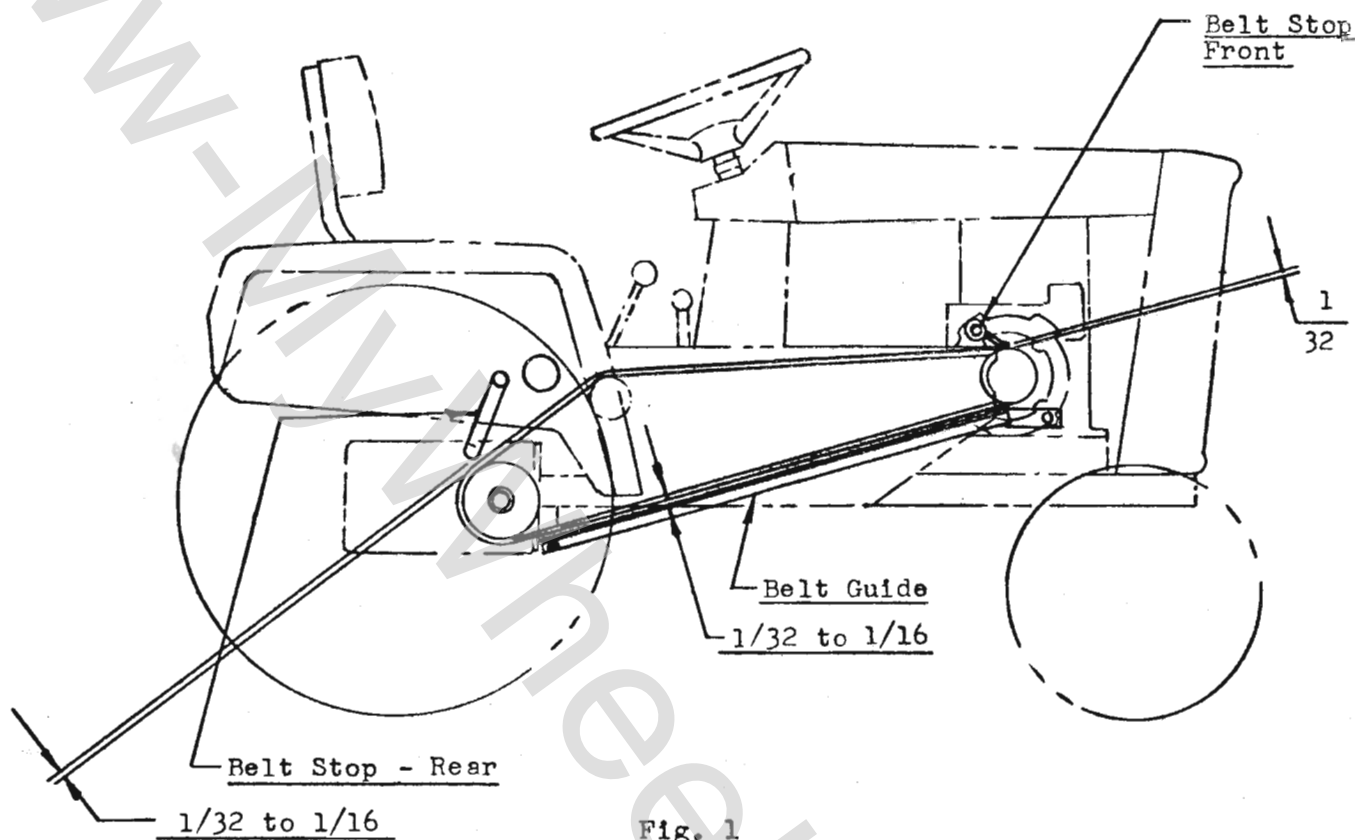

Fig. 1
- I. FIG. 1 — A Belt Guide, Part No. 4195 added. It attaches to the Frame and to the side of Engine and runs along bottom side of Drive Belt. It attaches to the Frame with a Bolt ( $\frac{3}{8}$ -16 x 1) Part No. 908034-4 and Nut ( $\frac{3}{8}$ -16) Nylock, Part No. 915113-6 and to the Engine with a Bolt ( $\frac{7}{16}$ -14 x 1) Part No. 908046-4 and Lock Washer  $\frac{7}{16}$  Dia., Part No. 920084-4. The Guide is to be tightened to Tractor only when it is placed along bottom of Belt with  $\frac{1}{32}$ " to  $\frac{1}{16}$ " clearance.
- II. FIG. 1 — A Belt Stop (Rear), Part No. 4486 fits inside the Right Rear Fender with a Bolt ( $\frac{3}{8}$ -16 x  $\frac{3}{4}$ ) Part No. 908032-4 and Lock Washer  $\frac{3}{8}$  Dia., Part No. 920156-4 and extends down to top of Drive Belt on Transmission Pulley. The Belt Stop is to be tightened only when it is  $\frac{1}{32}$ " to  $\frac{1}{16}$ " away from top of Belt.
- III. FIG. 1 — A Belt Stop (Front), Part No. 4796 fits on Engine with a bolt 908046-4 ( $\frac{7}{16}$ -14 x 1) and Plain Washer 920010-4 and Lock Washer 920084-4. It extends down to Belt on Engine Pulley. It is to be tightened only when it is  $\frac{1}{32}$ " away from top of Belt.